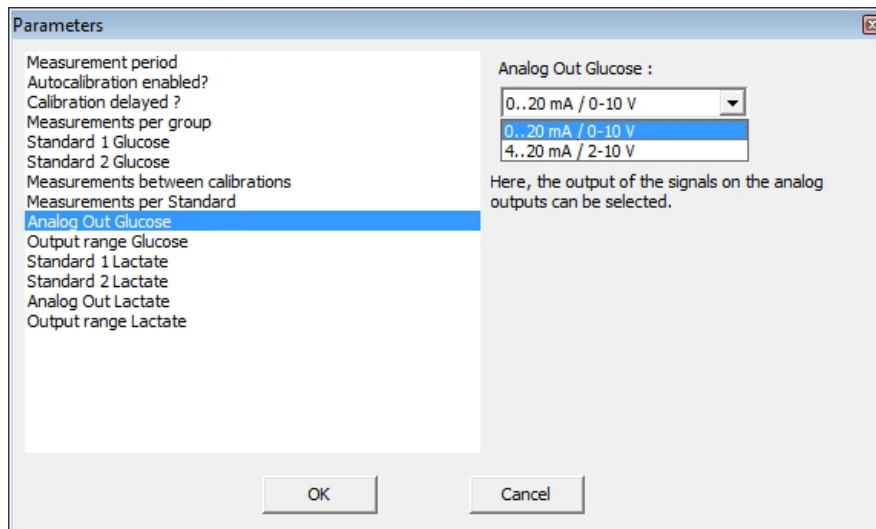

Figure 81: Switching the analog output
- Here, the output of the signals on the analog outputs can be selected between 0-20 mA and 4-20 mA, and between 0-10 V and 2-10 V, respectively (see Figure 81).